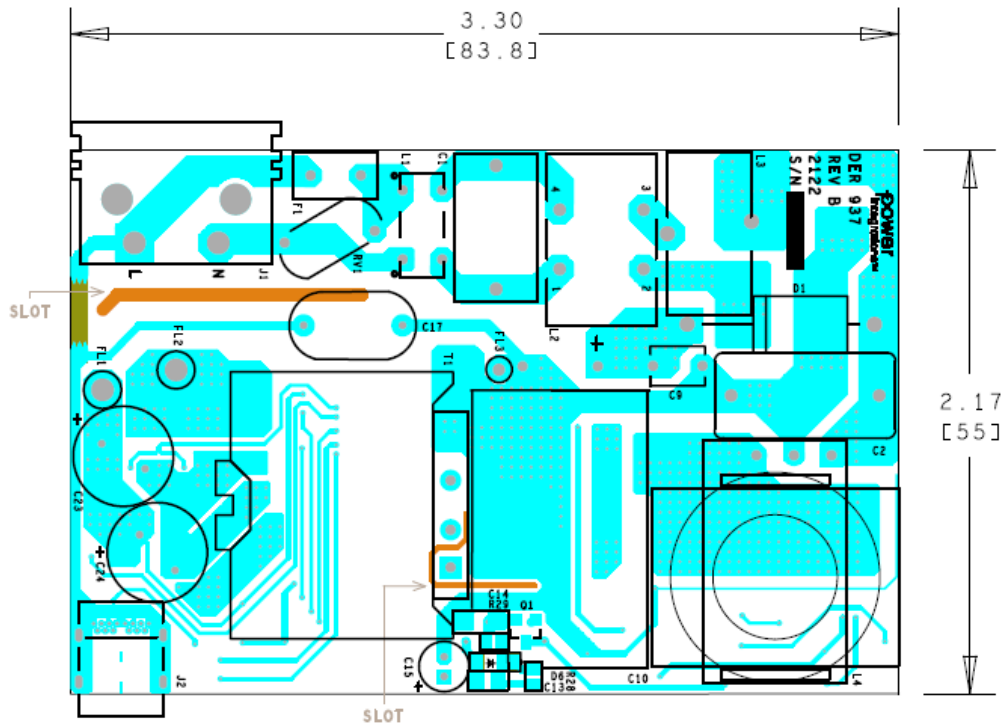

Figure 8 – DER-937 RevB PCB Layout, Top.
The PFC bias supply is derived from the flyback stage auxiliary output as shown previously in Figure 8. From a single bias winding, two rectified and filtered voltages are created: (1) VBIAS_Fast generated using US1DWF-7 ultrafast recovery diode D6, RC snubber R28 and C13, series resistor R29, filter capacitor C14, and shunt resistor R31; and (2) VBIAS_Slow generated using S1MLHRVG standard recovery diode D7, series resistor R30, and filter capacitor C15.